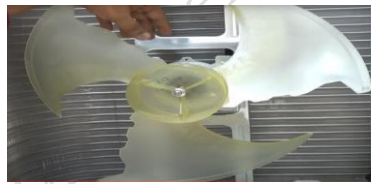

Fig. 1.40 Outdoor unit condenser fan blade
5. **Condenser Fan** – The fan helps dissipate heat from the condenser coil by blowing air over it, assisting in the cooling process. Figure 1.40 illustrates that a condenser fan is used to dissipate heat from a condenser coil.